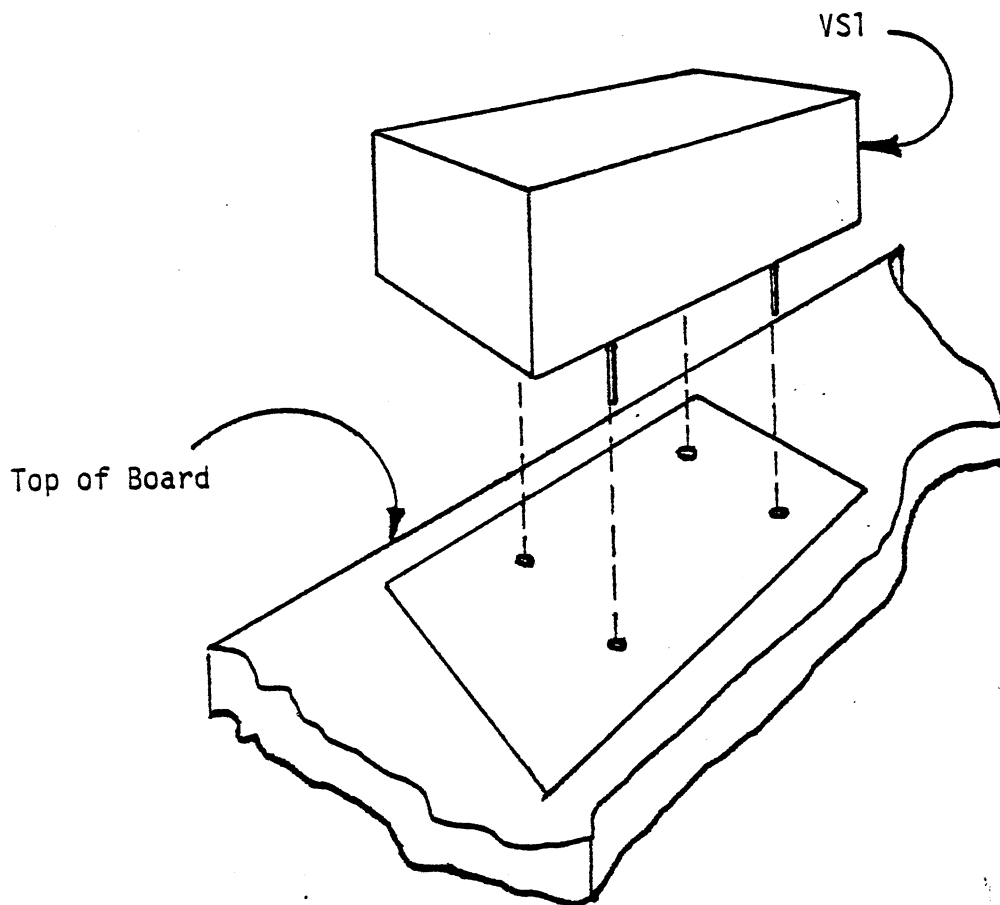

Figure 4-16a.
1. Referring to Figure 4-16a, orient VS1 over its proper holes on the silkscreened side of the board.